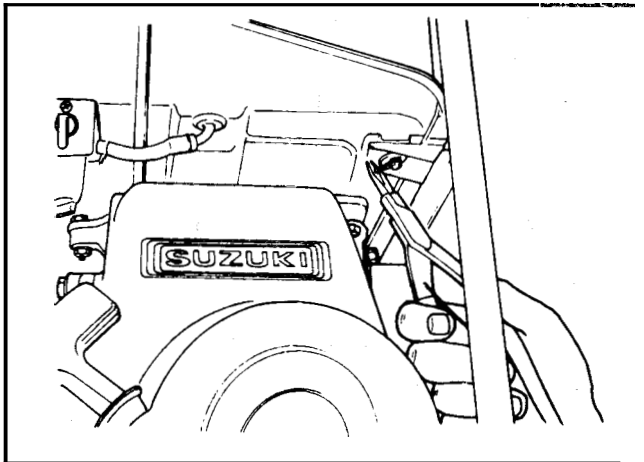

Figure 7
3. Remove **two** hair pin clips from the bottom of the front control panel. See Figure 7.